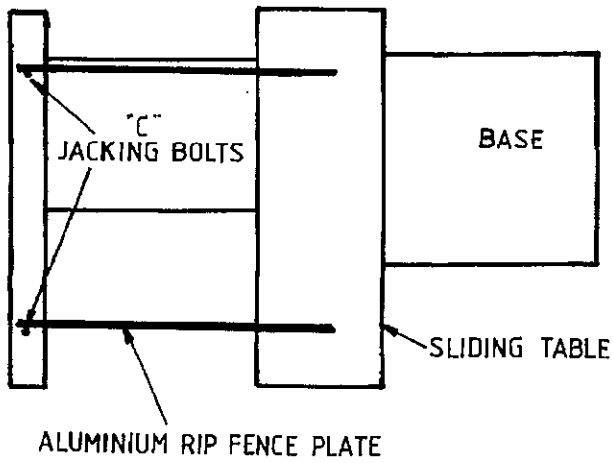
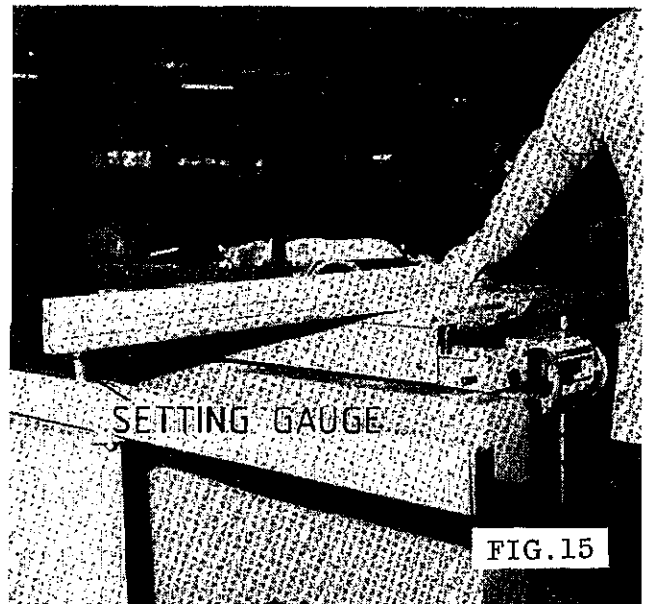

FIG. 14
FIG. 15
- 2 Position aluminium rip fence plate FIG.15 over sliding table and outer support above each jacking bolt "C" FIG.14, check height with setting gauge provided FIG.15, jack bolt (FIG.17) to suit setting gauge.